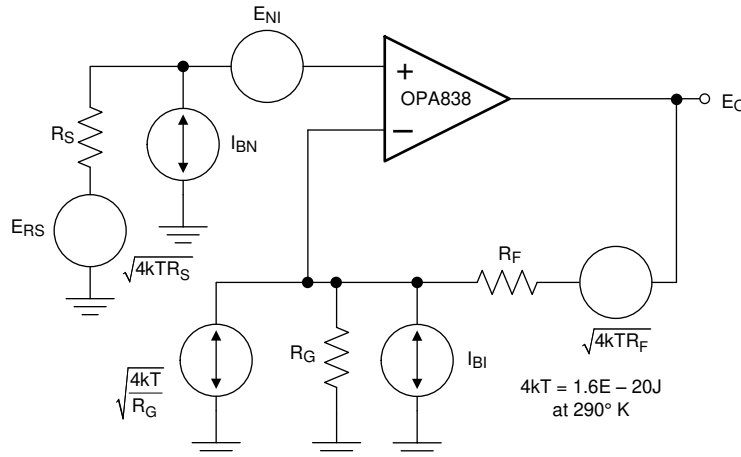
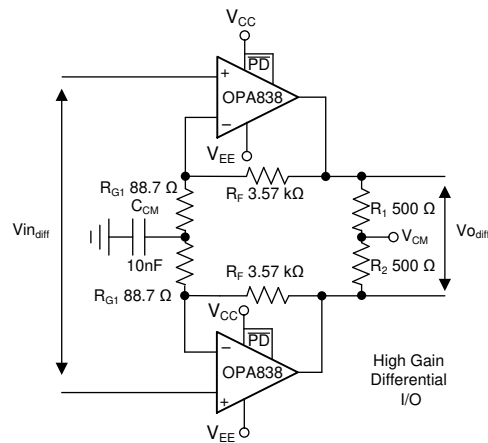

图 8-3. Op-Amp Noise-Analysis Model
图 8-4. High-Gain Differential I/O Stage
The decompensated voltage feedback of the OPA838 op amp offers among the lowest input voltage and current noise terms for any device with a supply current less than 1 mA. 图 8-3 shows the op amp noise analysis model that includes all noise terms. In this model, all the noise terms are shown as noise voltage or current density terms in nV/√Hz or pA/√Hz.
The total output spot noise voltage is computed as the square root of the squared contributing terms to the output noise voltage. This computation is adding all the contributing noise powers at the output by superposition, then taking the square root to return to a spot noise voltage. 方程式 3 shows the general form for this output noise voltage using the terms presented in 图 8-3.
A high-gain differential-to-differential I/O circuit can be used to drive a second-stage FDA or a differential-to-single-ended stage. This circuit is frequently used in applications where high input impedance is required (for example, if the source cannot be loaded). 图 8-3 illustrates an example design where the differential gain is 41 V/V. An added element between the two R_G resistors increases the noise gain for the common-mode feedback. Make sure to provision for the added element; otherwise, a decompensated VFA (such as the OPA838) often oscillates. With only the R_G elements in the differential I/O design, the common-mode feedback is
As an example design, start with the circuit in 图 8-4.
- Assess the DC common-mode biasing on the noninverting inputs. The DC biasing must be in range and have a gain of 1 to the output. This is not illustrated in 图 8-3.
- If a DC reference is used as the mid- R_G bias, setting the reference equal to the noninverting input bias voltage sets the output common-mode to that voltage. Using a capacitor as illustrated in 图 8-3 accomplishes the same results.
- Set the total R_G value near the high gain values using 表 8-1. This 178- Ω total must be split for a center tap to increase the common-mode noise gain, as shown by the 88.7- Ω value in 图 8-4.
The common-mode loop instability without the R_G center tap is not often apparent in the closed-loop differential simulations. The common-mode loop instability without the R_G center tap can often be detected in a common-mode output-noise simulation as 图 8-5 shows. Grounding the inputs 图 8-4 and running an output-noise simulation for the common-mode tap point in 图 8-3 shows a peaking in the noise at high frequency. This peaking indicates low-phase margin for the common-mode loop. 图 8-5 shows this peaking in the lowest noise curve, with two options for improving phase margin. The first option used in 图 8-4 is a capacitor to ground set to increase the common-mode noise gain only at higher frequencies. This increase can be seen by the peaking in the common-mode noise of 图 8-5. Another alternative is to provide a dc voltage reference on the R_G center tap. This method raises the common-mode noise gain from dc and beyond. Neither of these latter two options show any evidence of low phase-margin peaking. These two options do increase the output common-mode noise significantly at lower frequencies. Typically, an increase in output common-mode noise is more acceptable than low-phase margin because the next stage (FDA, ADC, differential to single stage) rejects common-mode noise.